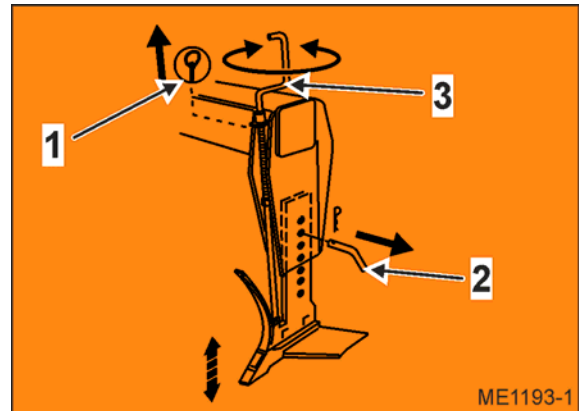

Fig. 28
3. Remove the linch pin (Fig. 28/1).
4. Pull out the pin (Fig. 28/2). The pin is secured with a spring cotter pin.
5. Set the desired working depth of the share by turning the crank (Fig. 28/3).